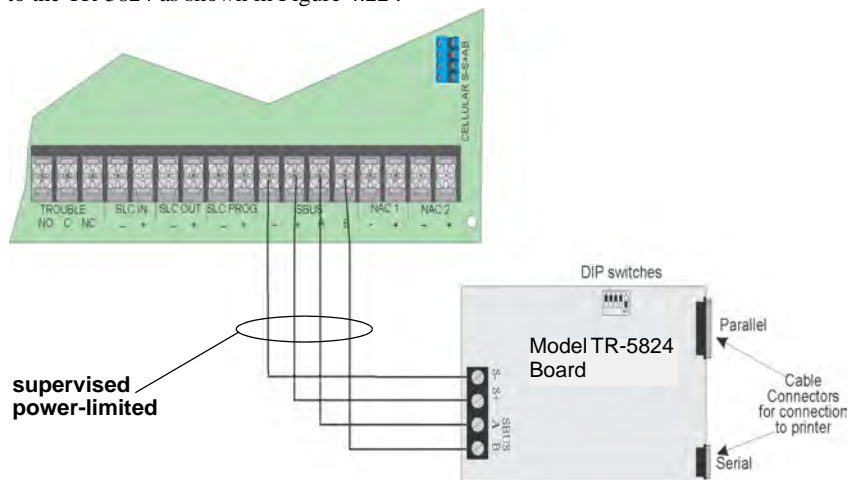

Figure 4.22 TR-5824 Connection to the Panel
2. Connect the TR-5824 to the panel as shown in Figure 4.22..
5. Connect a printer to the TR-5824 as shown in Figure 4.22 .